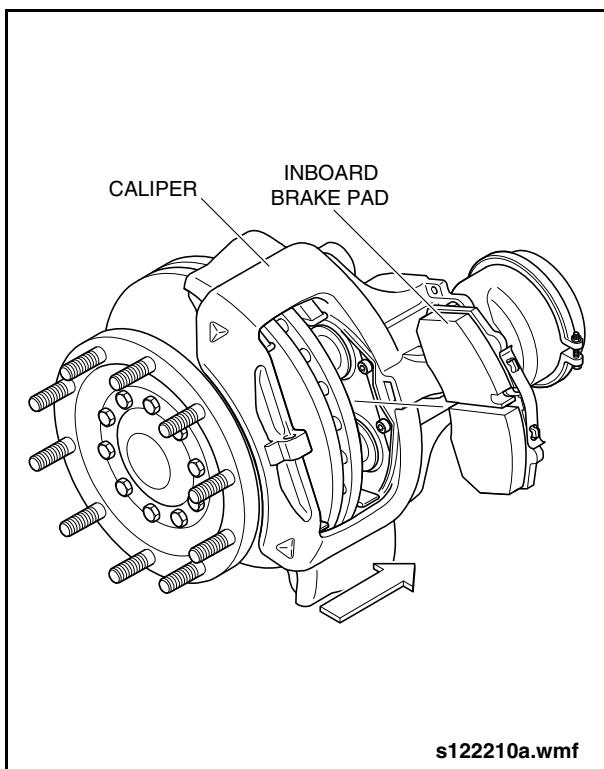

Fig. 2-121: Brake Pad Installation
1. Push the brake caliper inward against the stop and insert the inboard brake pad. See “Fig. 2-121: Brake Pad Installation” on page 109.